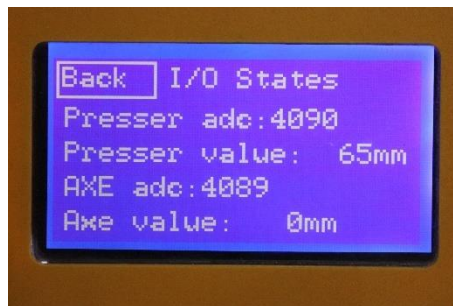

Figure 43 I/O properties
5. Navigate to I/O properties in the menu (Figure 43).